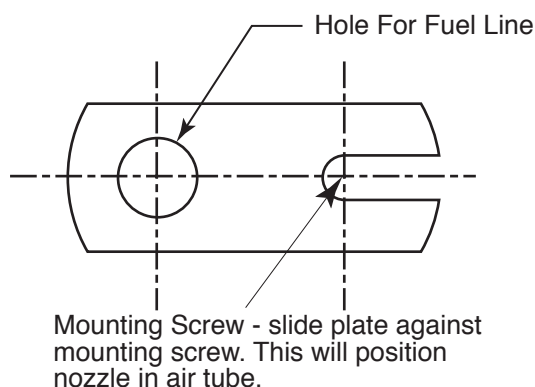

Figure 15. Electrode Assembly Installation
2. Install electrode assembly into air tube unit. Use escutcheon plate for mounting (see Figure 15).